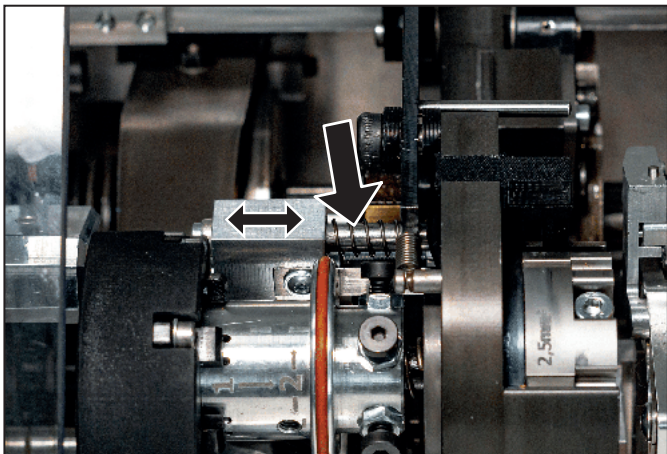

Figure 7.5 Separating blade holder lubrication points
- ▶ Move the separating blade to the right slightly, see Figure 7.5.